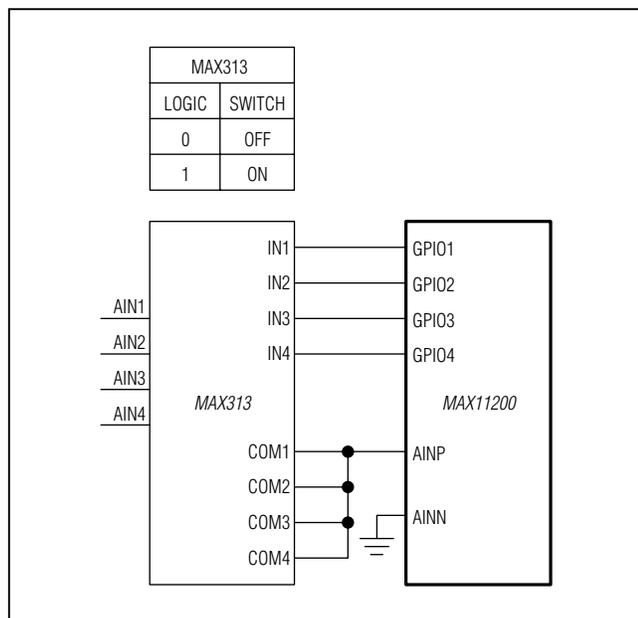

Figure 3. MAX11200 GPIOs Drive an External 4-Channel Switch (MAX313)
The devices provide four GPIO ports. When set as outputs, these digital I/Os can be used to drive the digital inputs to a multiplexer or multichannel switch. Figure 3 details an example where four single-ended signals are multiplexed in a break-before-make switching sequence, using the MAX313, a quad SPST analog switch.
Table 4a. Data Command to Select Channel AIN1 in Figure 3
Table 4b. Data Command to Set All Channels High Impedance in Figure 3
**Table 4c. Data Command to Select Channel AIN3 in Figure 3**